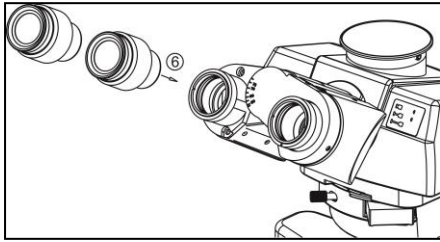

Fig 7
#### **4-2-5 Install Eyepiece (fig 7)**
1. Inset eyepiece into the eyepiece sleeve according to the path ⑥ shown in the figure 7.